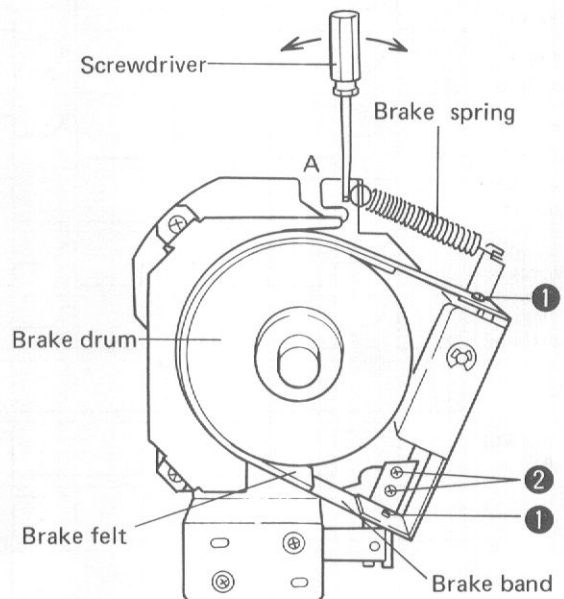

Fig. 7-2 Brake adjustment
1. First check that the brake band is mounted centrally in respect to the brake drum, and that the band is also parallel (i.e. no tape slackness or twisting). If the band is not in the center, adjust the brake drum; if it is not parallel, adjust the brake band after loosening screw ①.
of the brake solenoid inwards), and that there is no slackness in the brake band. If the brake felt does make contact, or there is slackness in the band, loosen screw ② shown in Fig. 7-2 and adjust the brake ring.
3. Pull the tension gauge in the B (E) direction, and read off the value when the reel starts to rotate. This value should lie in the 350 – 450g range, and may be adjusted by screwdriver at section A as shown in Fig. 7-2. If this procedure fails to attain the specified range, check the following points.